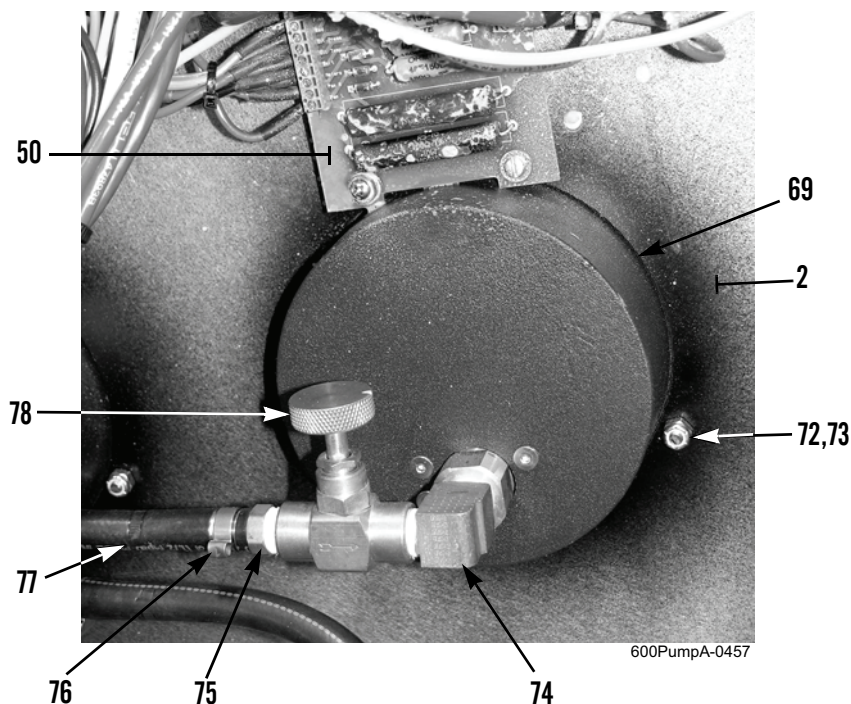

Figure 23. Blackout Light Switch and Suction Gauge.
2. Cut hose clamp (Figure 23, Item 76), hold hose (Figure 23, Item 77), and remove barb fitting (Figure 23, Item 75) from snubber valve (Figure 23, Item 78). Discard hose clamp.
3. Remove elbow assembly (Figure 23, Item 74) from suction gauge (Figure 23, Item 69).
4. Remove blackout light switch (Figure 23, Item 50). See *Blackout Light Switch Removal* in this work package.
5. Remove three locknuts (Figure 23, Item 72), screws (Figure 23, Item 73), and suction gauge (Figure 23, Item 69) from panel (Figure 23, Item 2). Discard locknuts.
1. Install suction gauge (Figure 23, Item 69) on panel (Figure 23, Item 2) with three screws (Figure 23, Item 73) and new locknuts (Figure 23, Item 72).
2. Install blackout light switch (Figure 23, Item 50). See *Blackout Light Switch Installation* in this work package.
3. Install elbow assembly (Figure 23, Item 74) on suction gauge (Figure 23, Item 69).
4. Install snubber valve (Figure 23, Item 78) on elbow (Figure 23, Item 74).
5. Position new hose clamp (Figure 23, Item 76) on hose (Figure 23, Item 77). Hold hose and install barb fitting (Figure 23, Item 75) on snubber valve (Figure 23, Item 78). Tighten hose clamp.
6. Ensure snubber valve (Figure 23, Item 78) is open one full turn.